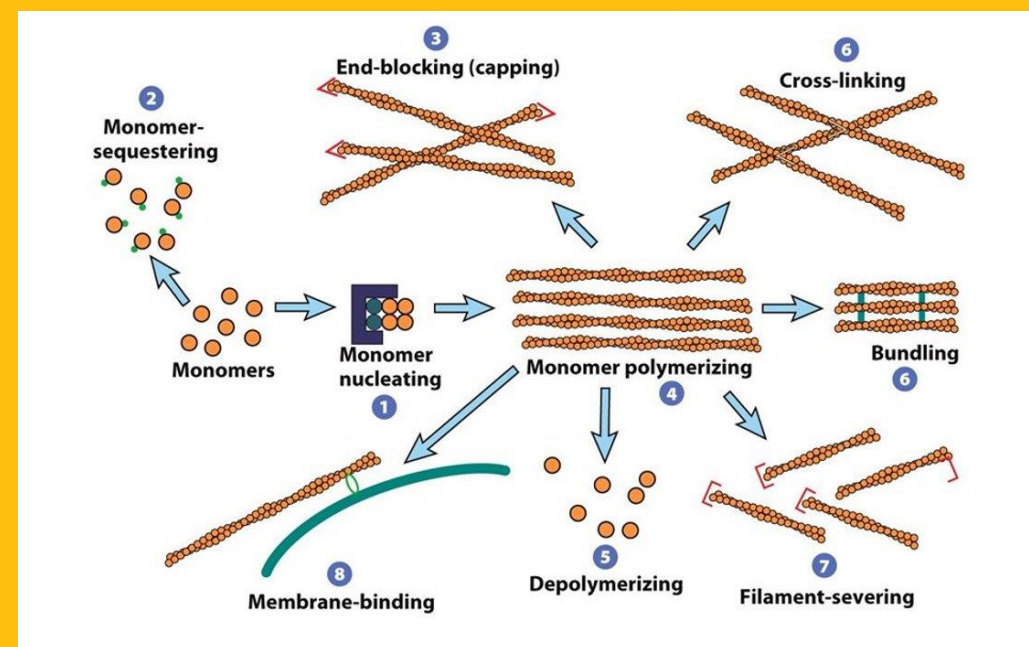

Figure 1: Actin can form many different structures through interaction with actin binding proteins.
- Figure 1: Cell and Molecular Biology, 4/e, 2005 John Wiley & Sons